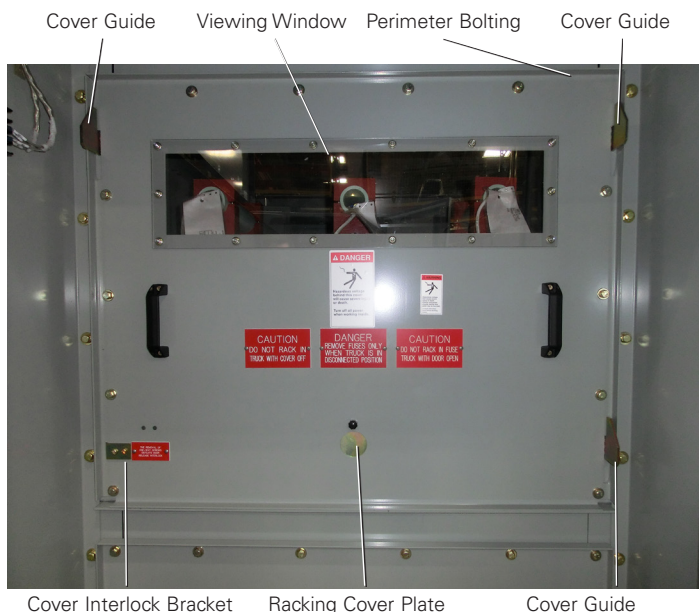

Figure 6. Auxiliary Compartment with Front Cover Installed.
- A. Unbolt and remove the front covers of the auxiliary compartments. The covers are removed by lifting upward and outward toward the user (see Figures 6 and 7).
1. Rotate the racking cover plate knob to expose the nut at the front of the racking screw on the transformer drawer (see Figure 6).
4. The front cover can not be removed when a transformer drawer is in the Connect position. The transformer drawer must be in the Disconnect position to remove the cover. When the drawer is moved to the Connect position, a mechanical linkage system on the compartment side sheet, operated by a bracket on the transformer drawer, engages a link with a bracket on the bottom left corner of the front cover, preventing the cover from being removed (see Figures 6 and 7).
1. Install and bolt the front compartment cover in place. Lift the cover in line with the compartment and align the slots on the cover with the protruding brackets on the compartment side sheets (see Figures 6 and 7). Push the cover into place and allow the cover to drop down to its final bolting location. Bolt the cover in place. The transformer drawer is fitted with a safety plate that blocks access to the racking screw until the drawer is in the compartment and the front compartment cover is in place (see Figure 7).